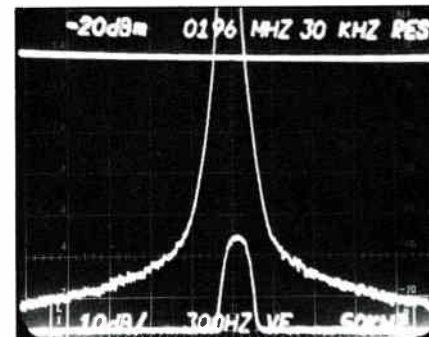

Figure 4-3 Composite triple-beat measurement using digital storage
4. If a 7L14 is used, move the PEAK/AVERAGE cursor to the top of the screen and slow the sweep to 1 sec/DIV. The 7L14's digital storage makes the measurement much easier (Figure 4-3.)